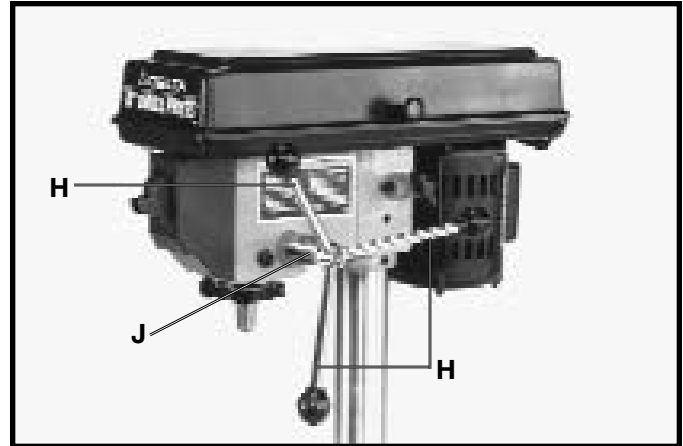

Fig. 7
5. Thread the three pinion shaft handles (H) Fig. 7, into the three holes located in the pinion shaft (J) as shown.